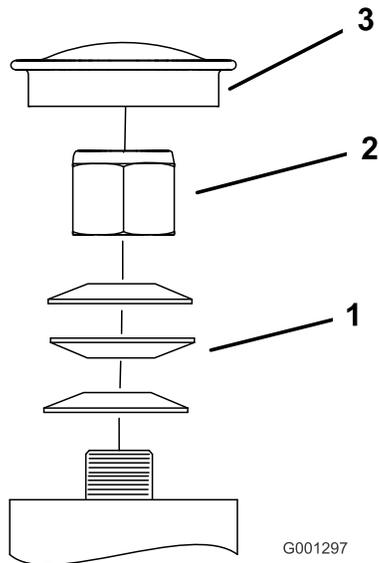

Figure 56
3. Remove the dust cap from the caster and tighten the locknut (Figure 56).
4. Tighten the locknut until the spring washers are flat, and then back off 1/4 turn to properly set the preload on the bearings (Figure 56).
Important: Make sure that the spring washers are installed correctly as shown in Figure 56.
5. Install the dust cap (Figure 56).